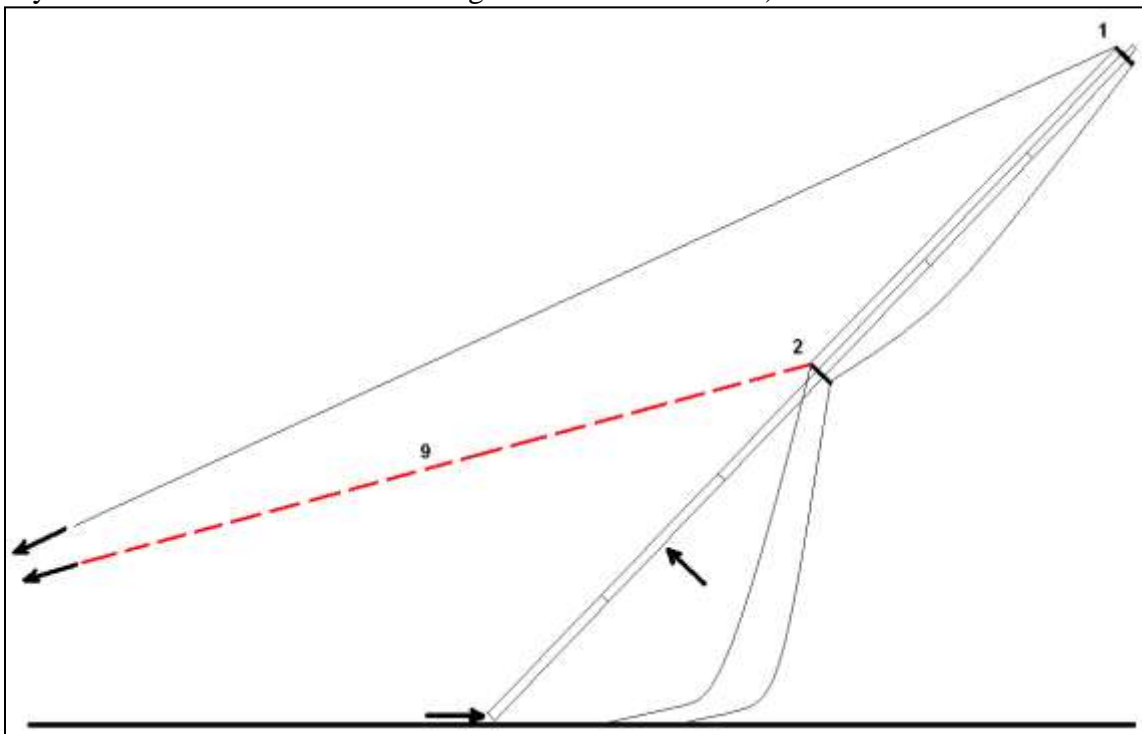

Figure 3. Lifting the six sections to the vertical position.
Once assembled on the ground and the guy rings aligned to route the wires of the loops in their correct positions relative to the mast, start raising the assembly pulling and pushing at the points indicated by the arrows in Figure 3 using the wires and the ropes (9).